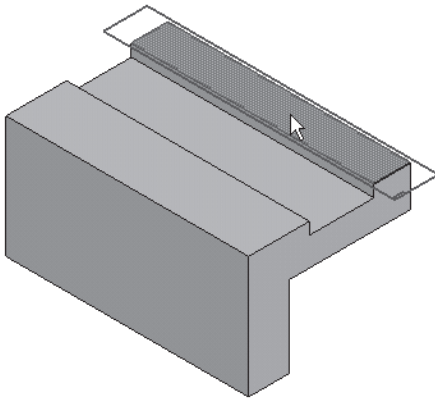

Figure 5-58 Specifying the orientation of the sketching plane for the second feature
1. Move the cursor over the top face of the base feature and then press the N key to orient the sketching plane, as shown in Figure 5-58.